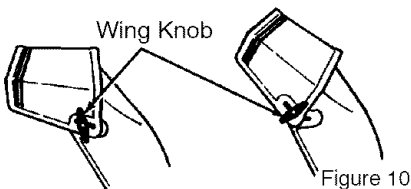

Figure 10
2. Loosen the **wing knob** on the chute deflector and move the deflector to set the distance. Move the deflector (**Up**) for more distance, (**Down**) for less distance. Then tighten the **wing knob** (See Figure 10).